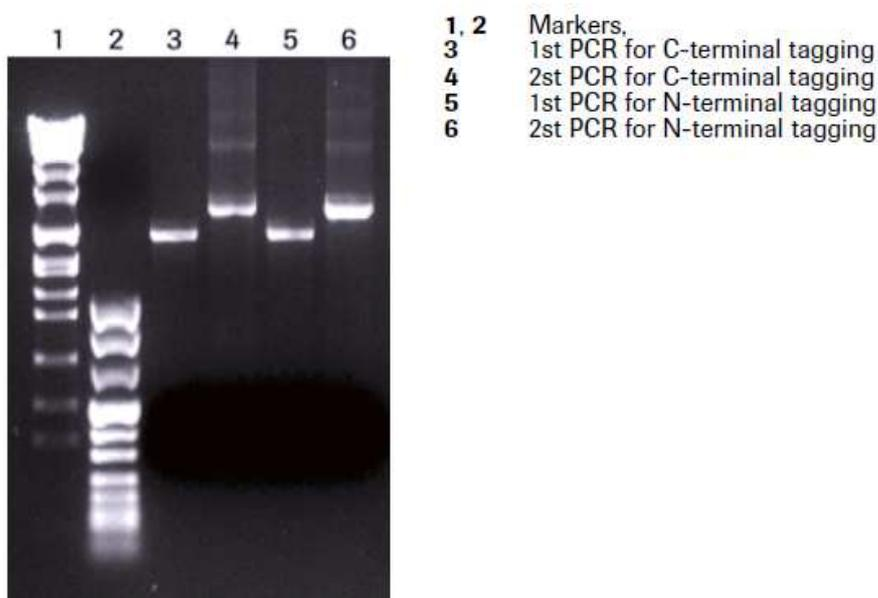

Figure 3. Typical products of the first and second PCR for C- and N-terminally tagged linear templates coding for GUS.
2. Estimate the product of the second PCR using the content of the molecular weight marker bands as an internal standard (Figure 3).
PCR product from the second PCR coding for N-terminal His6-tagged GUS was quantified (Figure 3). 1  $\mu$ g of the PCR product (corresponding to 10  $\mu$ l) was used for expression in a 50  $\mu$ l reaction volume of the RTS 100 Wheat Germ CECF Kit and analyzed by SDS-PAGE (Figure 4) and optionally by Western blotting.